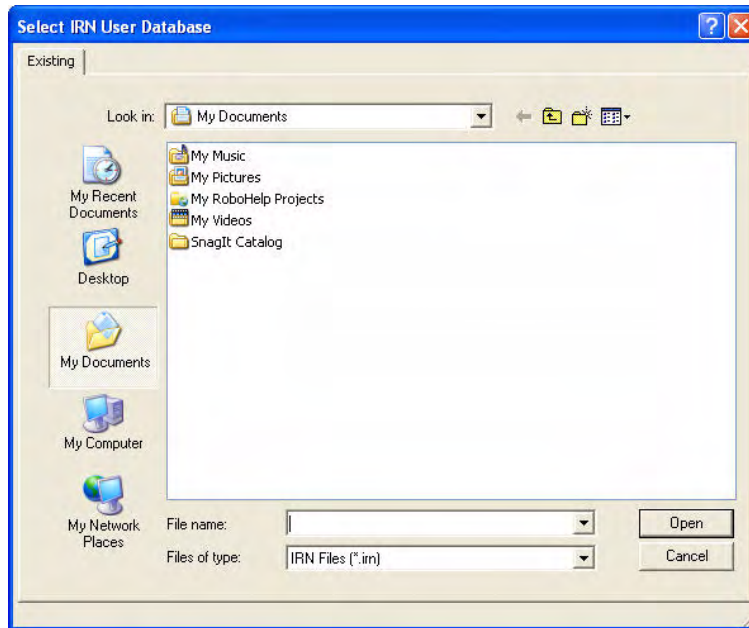

FIG. 87 Select IRN User Database window
1. In the NetLinX Studio Workspace, select *Add From User IR Database...* to open the *Select IRN User Database* window (FIG. 87).